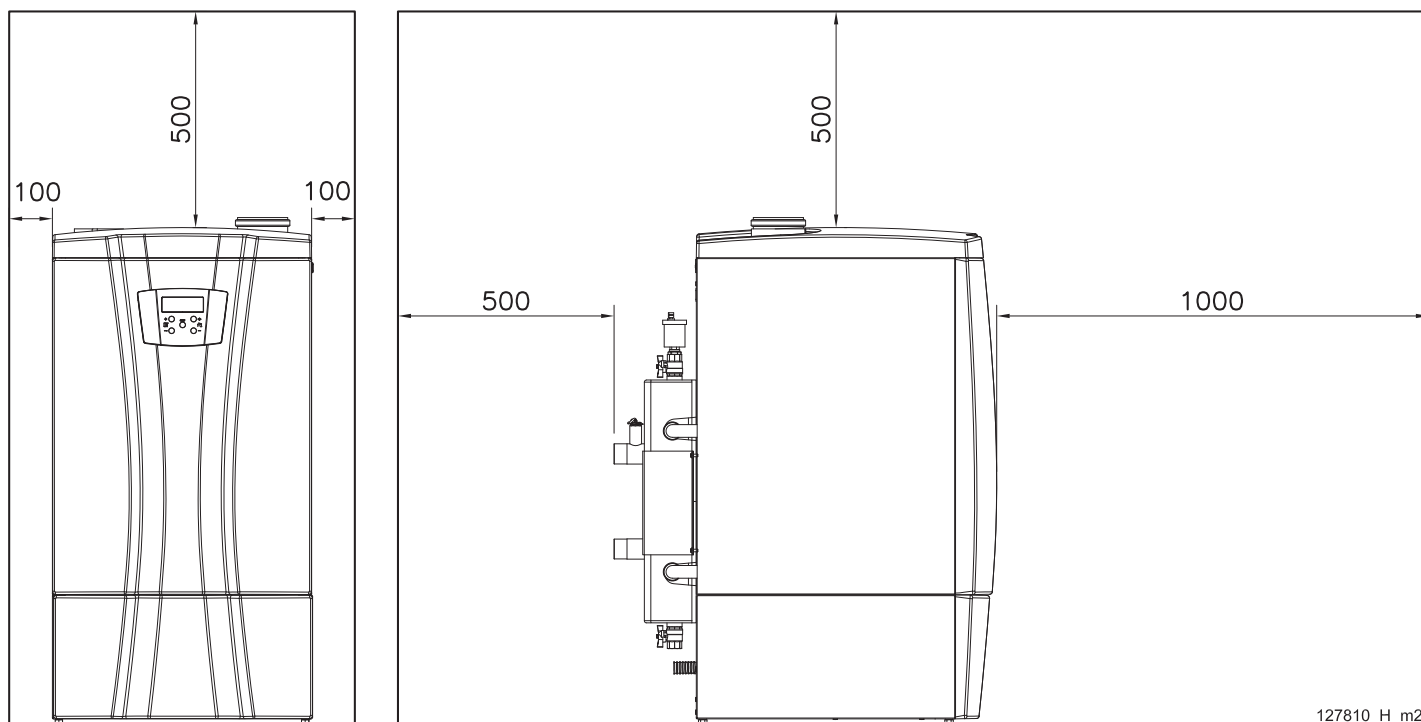
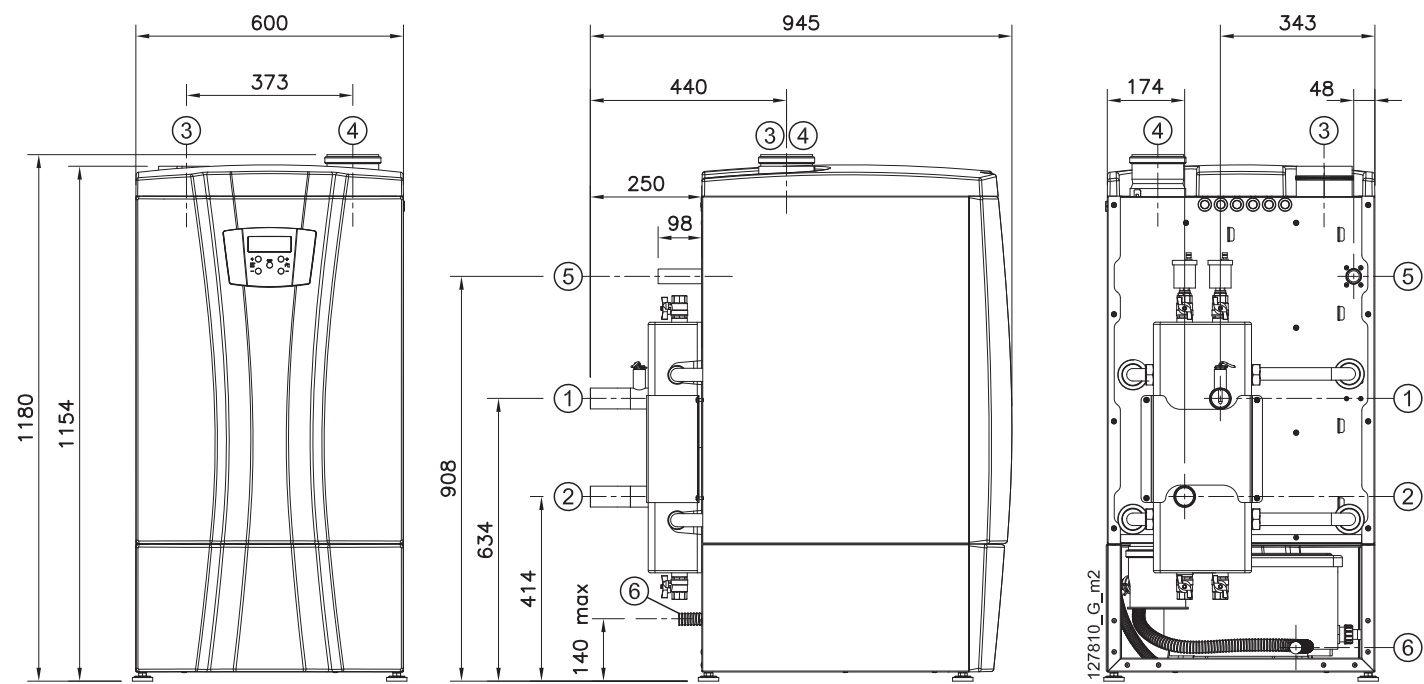

Figure 7-1 - Minimum distances to be observed for models 70T and 140T
Figure 8-1 - Dimensions and centre space distances of attachments for models 70T and 140T (References in figure 8-3)
- ☞ Check figures 7-1 and 7-2 regarding minimum distances to be observed for installation and future maintenance.
For both installation and maintenance, it is necessary to leave free spaces around the boiler, as shown in figures 7-1 and 7-2. The dimensions and connection centre space distances for the boilers are shown in figures 8-1, 8-2, 9-1 and 9-2.
To identify the position of the fittings, see figures 8-1 and 8-2.